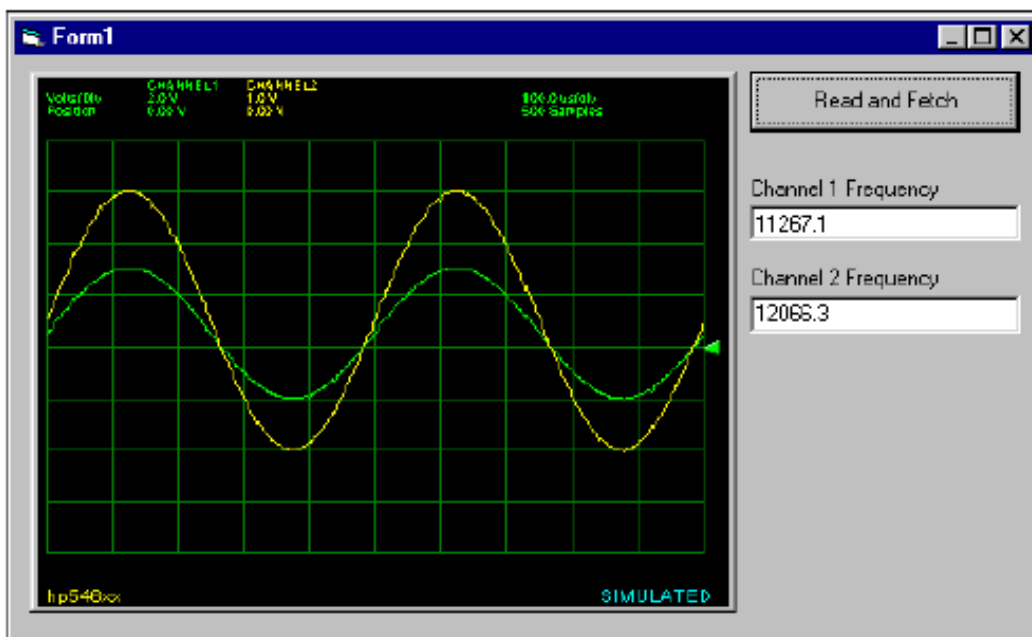

Figure 7. Interface for Retrieving Data from a 2-Channel Oscilloscope
Suppose you use a 2-channel oscilloscope to take measurements. Your program requires that you obtain waveforms from both channels as well as read the frequency information from both channels all from a single trigger condition – clicking the command button. In this section, you will build the example shown in Figure 7.
4. Create the user interface as shown in Figure7. Name the command button **cmdRead** and the two text boxes **txtChanFreq1** and **txtChanFreq2**.